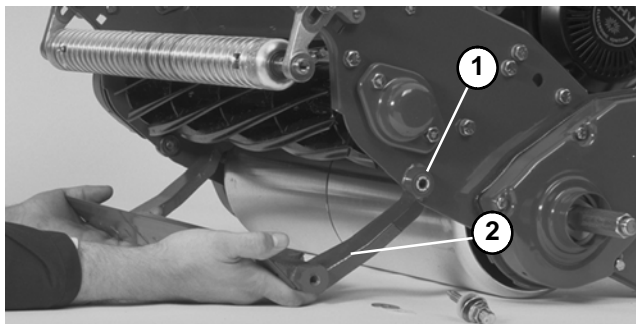

Figure 28
3. Install new nylon bushings into both sides of the frame (Fig. 28).